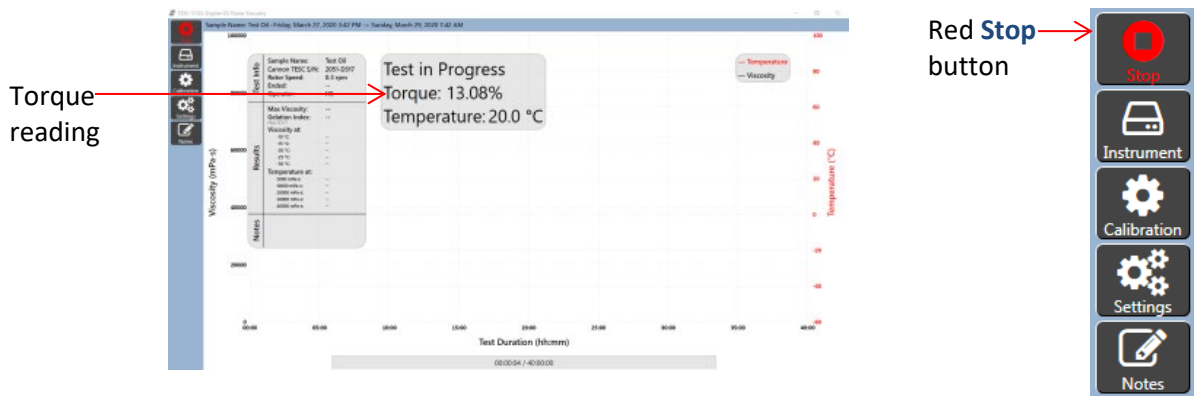

Figure 39: Test in Progress Screen with Torque Reading
11. Watch the torque values for the first minute to ensure the number does not vary by more than 10%. Torque value is displayed on-screen in a popup. This popup is moveable and can be dragged to another location on-screen for easier and more convenient use and viewing. Refer to Figure 39.